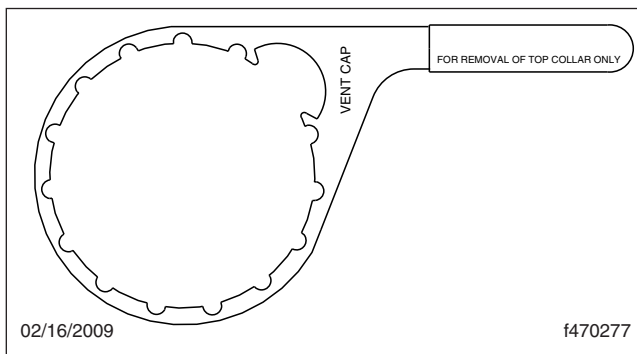

Fig. 13.3, DAVCO Collar Wrench
3. Using a DAVCO collar wrench, shown in **Fig. 13.3**, remove the clear cover and collar.